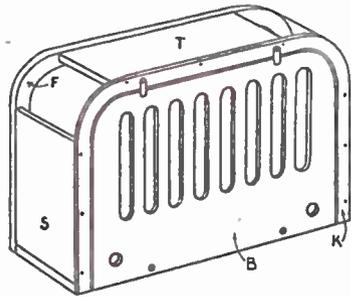
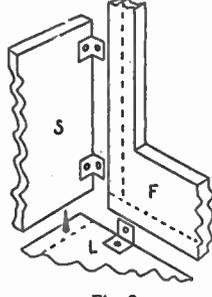

Fig. 1—Back view of cabinet
Fig. 2
Next, the two sides can be sawn. These are shown as (S) in Figs. 1, 2 and 3, and are held to the front, similar to the bottom, with glue and angle-pieces. Glue and screw through the bottom, fix the sides to the base. The actual arrangement can be understood by reference to Figs. 1, 2, 3. Figs. 2 and 3 show the structure in an exploded form.
The top (T) can next be sawn out. This, again, is later fixed with glue and brackets. The position of this is shown in Fig. 1, which shows the cabinet as it looks before the application of the veneer to top and sides.